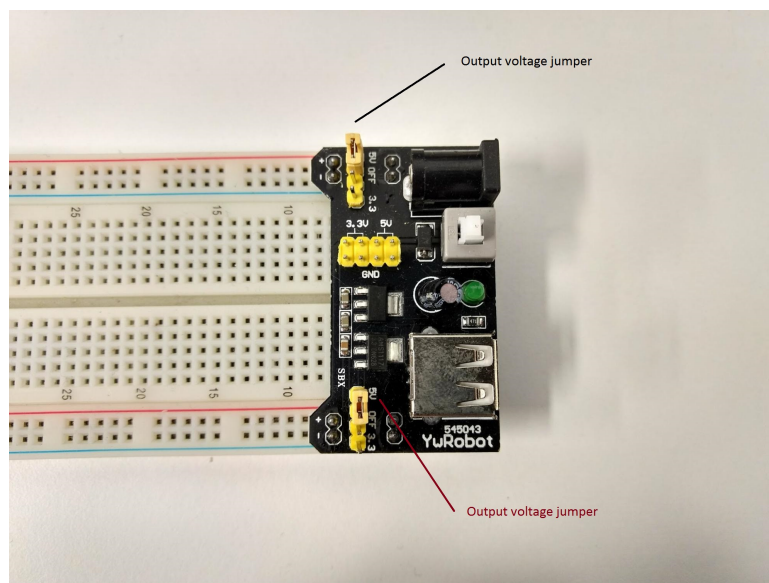

Figure 1: Breadboard power supply mounting
1. Insert the power supply unit (PSU) into the breadboard as shown in Figure 1. Pay careful attention to the orientation of the breadboard. The + symbols on the power supply module should line up with a red lines on the breadboard.
2. Set the output voltage jumpers to +5 V, as shown in Figure 1.